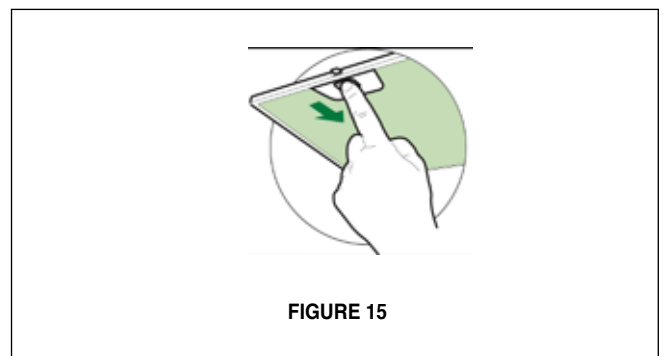

FIGURE 15
6. Remove the grease filters from the unit and set aside. The grease filters are installed by pressing the handle in front of the filter (FIGURE 15). When replacing, make sure that the filters are properly positioned with the handles in front and visible.